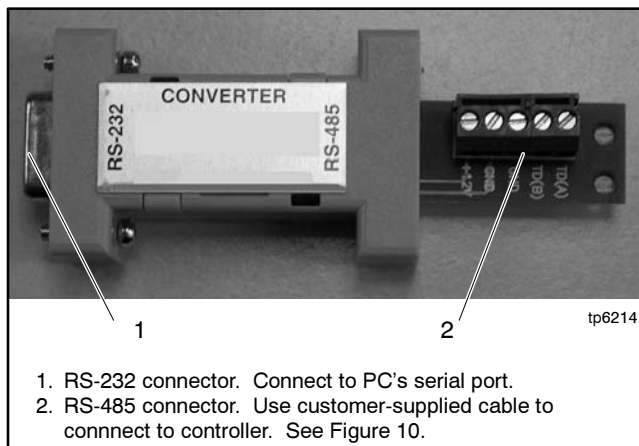

Figure 8 RS-232 to RS-485 Converter (available from the factory)
4. Connect the RS-232 side of the RS-232 to RS-485 converter to the serial port on the PC. See Figure 8.